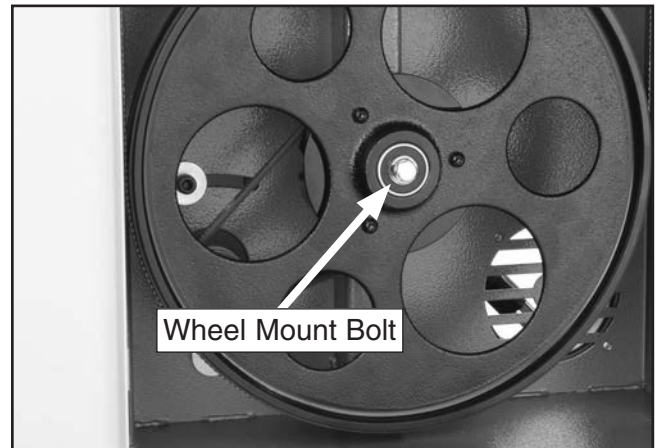

Figure 95. Example of wheel mount bolt.
3. Unthread the lower wheel mount bolt shown in **Figure 95**, and slide the lower wheel off the bearing shaft.